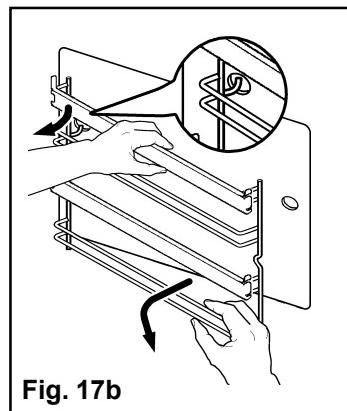

Fig. 17b
2. disengage the rear hook and take off the shelf support (Fig. 17b);